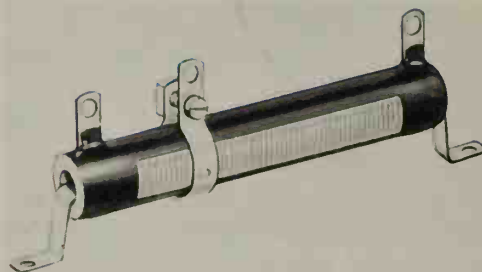

Fig. 3-23. An adjustable power resistor. (Ohmite Mfg. Co.)
2. **POWER RESISTORS**, Fig. 3-22, usually are resistive wire wound on a ceramic form. Their large size predicts their use in high power circuits with considerable current. A special type of power resistor is shown in Fig. 3-23 with circuit symbol. They are